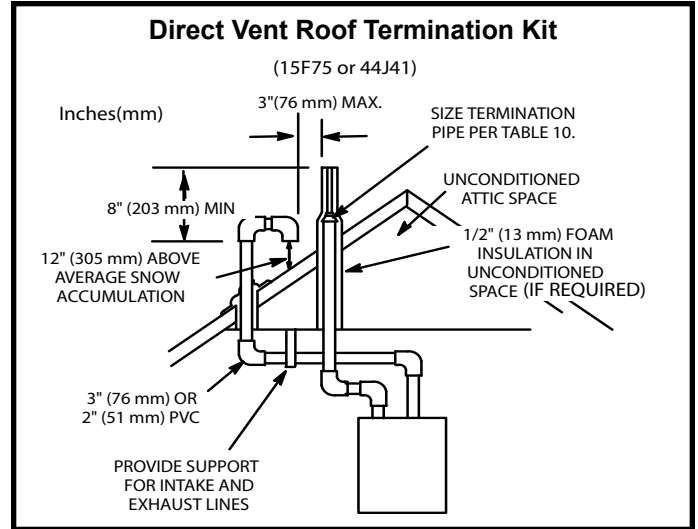

Figure 29
Intake and exhaust pipes may be routed either horizontally through an outside wall or vertically through the roof. In attic or closet installations, vertical termination through the roof is preferred. Figures 29 through 39 show typical terminations.
3. On roof terminations, the intake piping should terminate straight down using two 90° elbows (See Figure 29).